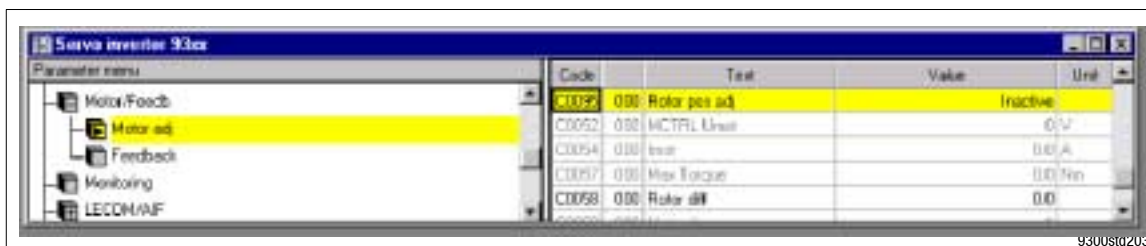

Fig. 5-4
3. Activation of the position adjustment with C0095 = 1 (GDC, see Fig. 5-4)
- The rotor angle is indicated under C0058 (see Fig. 5-4).